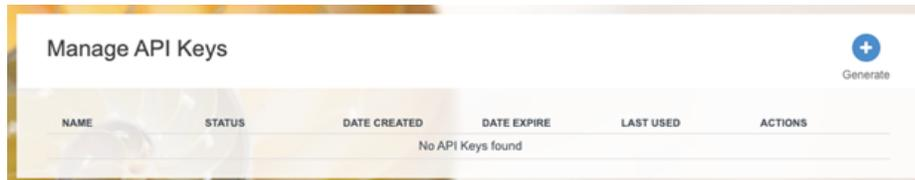

Figure 83: API Key List dialogue
- In a third browser tab, navigate to <https://accounts.login.illumina.com/platform-home/#/apiKey/list> (Figure 83). (If your BaseSpace account is part of an Enterprise subscription, navigate to [https://\[YourEnterpriseDomain\].login.illumina.com/platform-home/#/apiKey/list](https://[YourEnterpriseDomain].login.illumina.com/platform-home/#/apiKey/list) ).